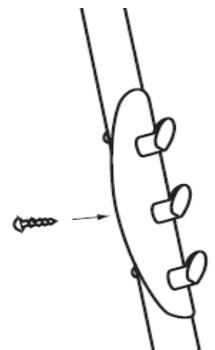

Figure 4
11 You can add the **Towel Hook (E)** at this stage, using the **#10 x 5/8" Self Tapping Screws (G)**. See *Figure 4* (*Instructions continued on the back*)